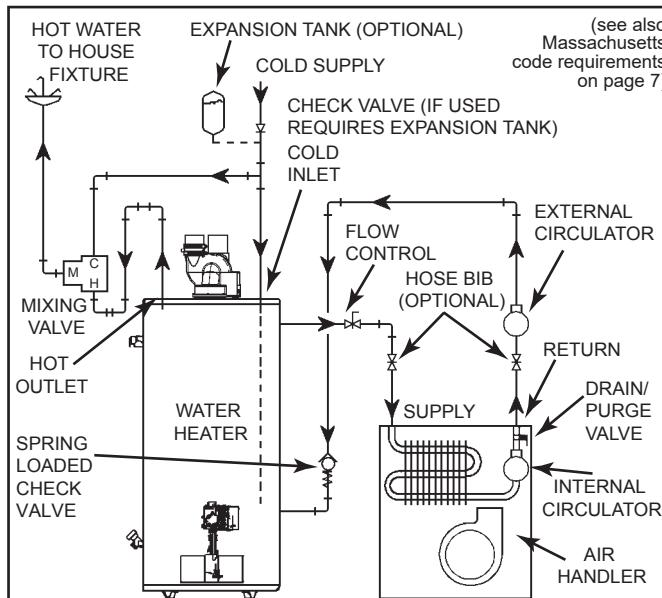
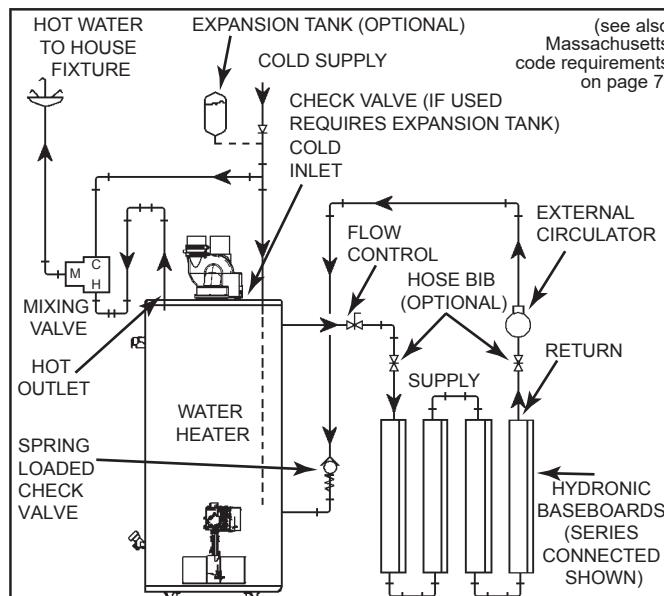

Figure 11.
Figure 12.
8. "Combo" Heating Systems require higher water temperatures than other applications. When the system is used to supply water for Combo Heating applications, a means, such as Thermostatic Mixing Valves (see Figure 6) at each point-of-use, must be installed to temper the water in order to reduce scald hazard potential (see Figure 11 and Figure 12).
- A. A fan coil/air handler (Figure 11).
- B. A hydronic baseboard (finned tube) loop/in floor heating (Figure 12).